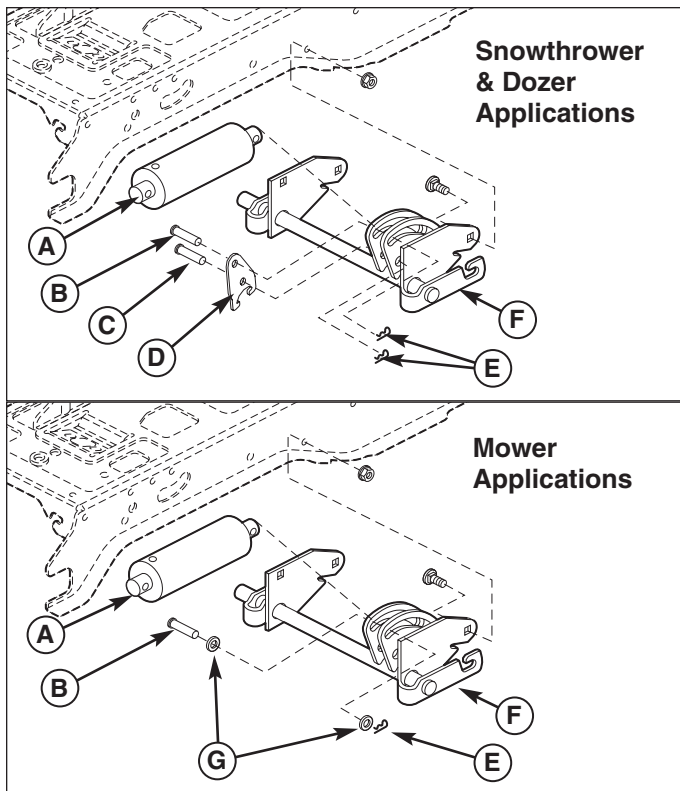

Figure 16. Lift Lock Plate - Hydraulic Lift Models
2. Remove the hair pin clip and washer (D, Figure 16) securing the angling control rod to the clevis. Disconnect the angling control rod.
3. Remove the angling control rod from the support arm (A).
4. Remove the pivot pin (C) connecting the blade and pivot hitch. Remove the blade.
5. Lower the lift and remove the clip (B) securing the lift rod to the push bar and lift rod.
6. Remove the hitch pin and safety clip (E) securing the pivot hitch (F) to the sub-frame hitch. Remove the pivot hitch.
When using a snowthrower or dozer, the downward pressure lock plate (D, Figure 16) and an additional pin (C) is installed. These parts are included with the attachment. Note that the washers (G) are not used with the lock plate.